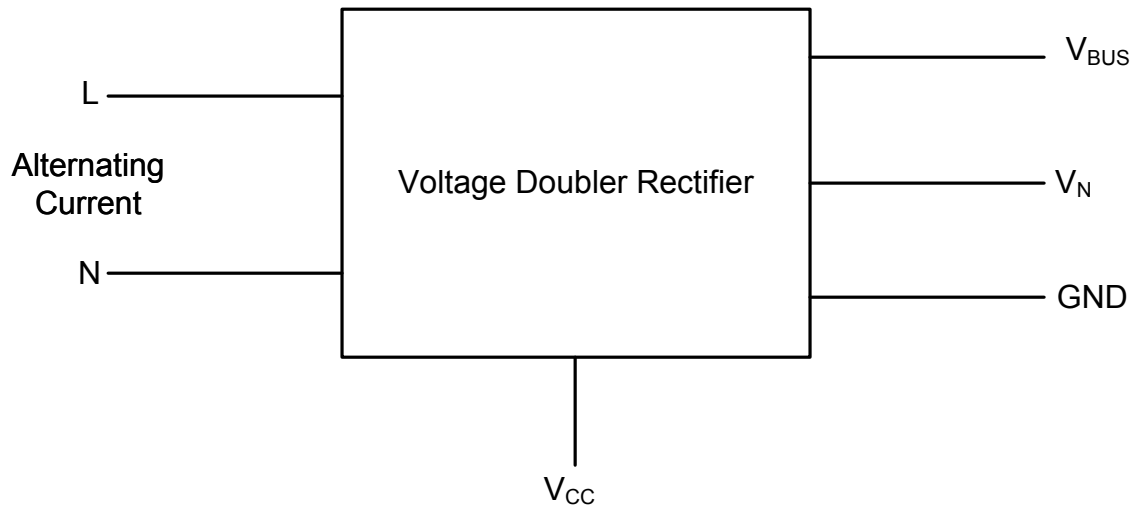

FIG. 1
FIG. 1 shows a pin-out of a voltage doubler rectifier. The voltage doubler rectifier can be packaged as an integrated circuit that is included in a power adapter. The power adapter can plug into both an electrical outlet in a wall and a computing device to provide power to the computing device. The voltage doubler rectifier rectifies alternating current (AC) input voltage into a direct current (DC) output voltage. If the AC voltage is low, such as below a threshold value (such as 165 volts in an example in which the voltage doubler rectifier is designed to accommodate input AC voltages of 110 or 120 volts and 220 or 230 volts), then the voltage doubler rectifier will
In the example shown in FIG. 1, the voltage doubler rectifier includes two AC inputs, a line (L) node and a neutral (N) node. The voltage of the line node varies between a maximum positive value of the AC input value (such as 110 volts or 220 volts) and a maximum negative value of the AC input value (such as 110 volts or 220 volts). The voltage doubler rectifier includes three DC outputs, a bus pin V_{BUS} that outputs the high rectified DC voltage value, such as 110 volts or 220 volts, a ground (GND) node that has a voltage of ground or zero, and a neutral node V_N that has a DC voltage between the bus voltage and ground. The voltage doubler rectifier can also include a power-supply pin V_{CC} that provides power for the control circuit that controls whether the voltage doubler rectifier doubles the voltage. The power-supply pin can be an auxiliary power from the auxiliary winding of the or an LDO from the V_{BUS} .